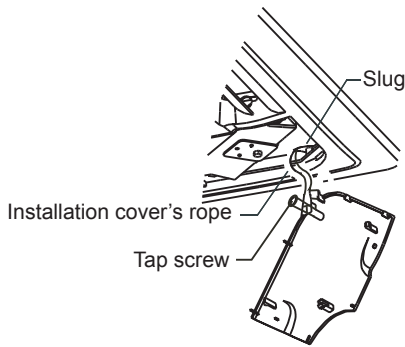

Fig. 4-20
- 1) Fasten the rope of installation cover on the bolt of the installation cover. (Refer to Fig.4-20)